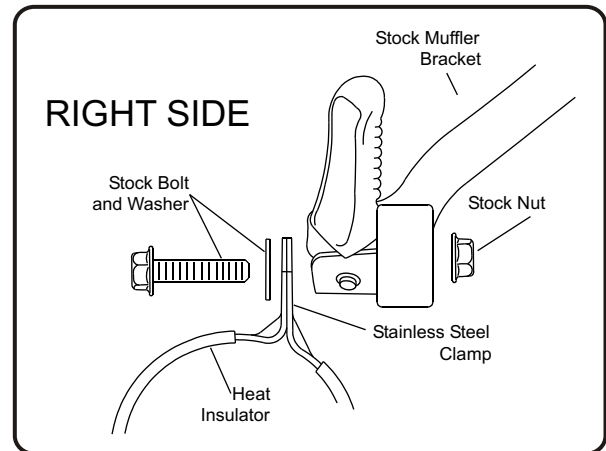

Fig. 5
- 12 Apply heat insulator to inside of muffler clamps and slide clamps onto mufflers. (See fig. 5 & 6)
- 13 Mount muffler clamps to stock muffler brackets using stock bolts, washers and nuts. (See Fig. 5 & 6) Torque bolts to 2.5 kg-m (18 lb-ft).